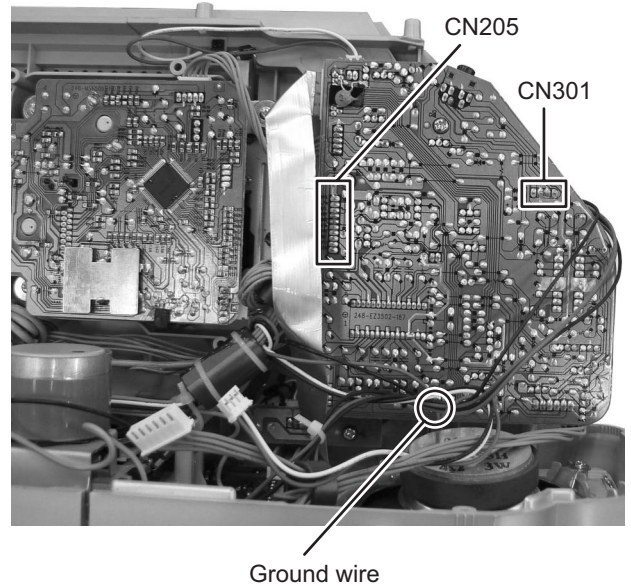

Fig.5
3.1.2 Removing the Top cabinet assembly (See Fig.5, 6)
- (1) Disconnect the connector wire from Cassette mechanism assembly connected to connector **CN205** of the Amplifier board assembly. (See Fig.5)
- (2) Disconnect the connector wire from speaker connected to connector **CN301** of the Amplifier board assembly. (See Fig.5)
- (3) Remove the solder the grand wire from Cassette mechanism assembly soldered to Amplifier board assembly. (See Fig.5)